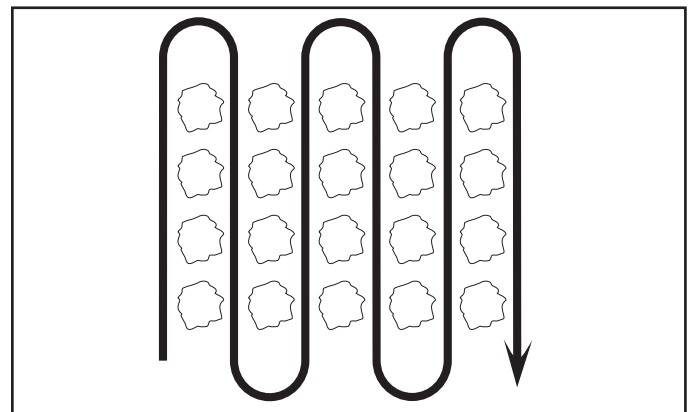

Fig. 10
- Cultivate up and down the rows at a speed which will allow tines to uproot weeds and leave the ground in rough condition, promoting no further growth of weeds and grass (See Fig. 10).